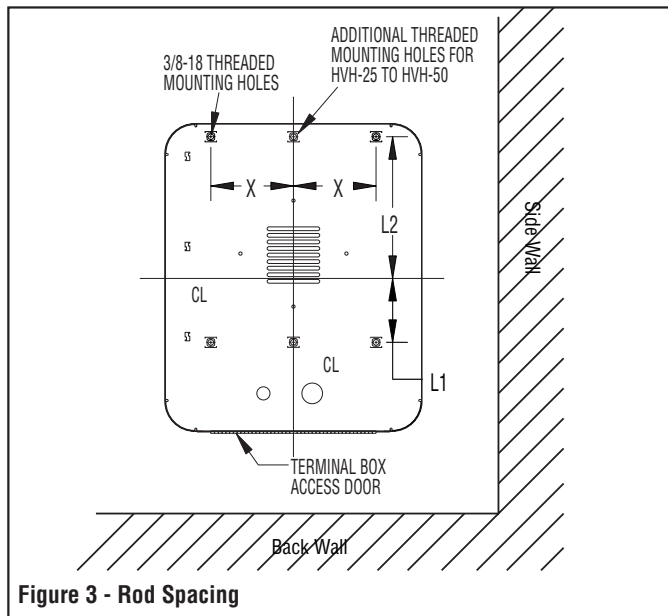

Figure 3 - Rod Spacing
- A. It is recommended that the heater only be used with ceiling heights of 12 feet or greater. Minimum spacing to ceiling is 6 inches, use 3/8-18" thread stock (supplied by others) as shown in Figure 3.
- A. The heater can be rod mounted to the ceiling by installing four (4) threaded mounting rods in the threaded holes located on the top of the heater as shown in Figure 3. (Refer to Table C for mounting rod thread size.)
5. The bottom access door is hinged. There are two screws that must be removed to gain access (Figure 3).